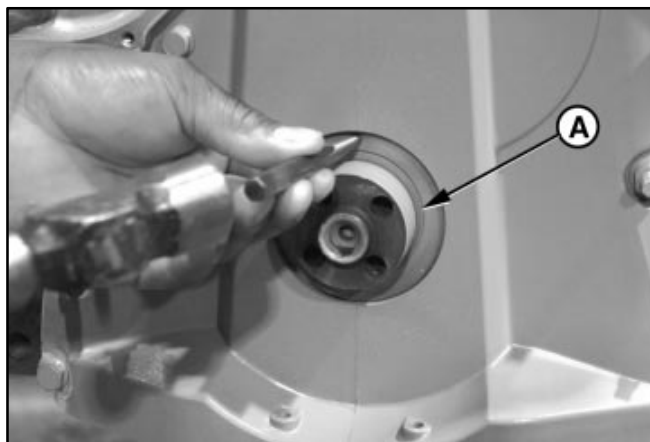

FIGURE 7-29. REMOVING OIL SEAL
- B. Remove cap screw and washer (A) that secure the damper to the crankshaft.
- C. install a thread protector in the nose of crankshaft and secure a heavy duty puller to the pulley or damper using the auxiliary mounting holes (B). Remove the pulley or pulley/damper.
2. Center punch the oil seal at 12 o'clock and drill a 1/8 in (3 mm) hole (Figure 7-29).